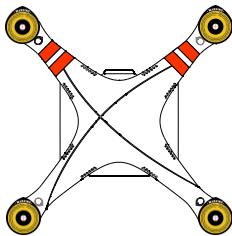

Figure 2-1
1. ( Figure 2-1 ) Remove the four warning cards from the motors after you’ve read them.